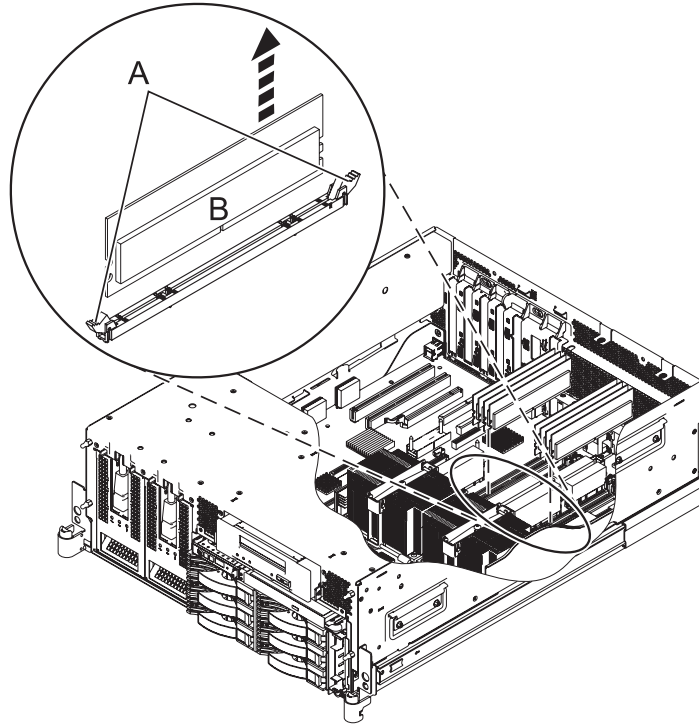

Figure 22. Removing a memory module
11. Unlock the memory module that you identified in step 7 on page 30 by pushing the locking tabs (A) shown in Figure 22 on page 33 out and then down. The lever action of the tabs forces the memory module out of the connector.
12. Lift the memory module out of the connector, as shown in Figure 22.